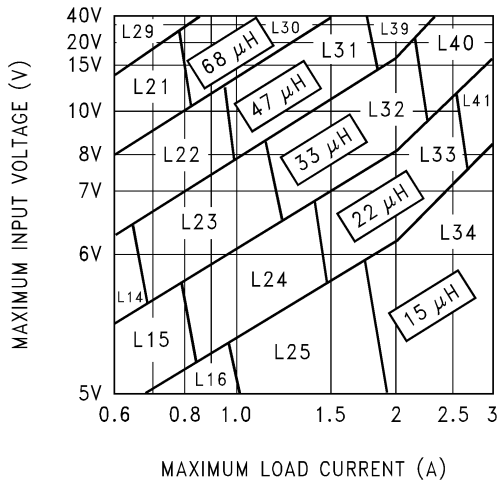
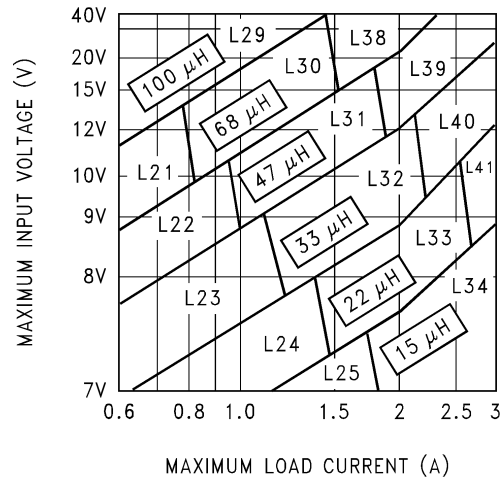
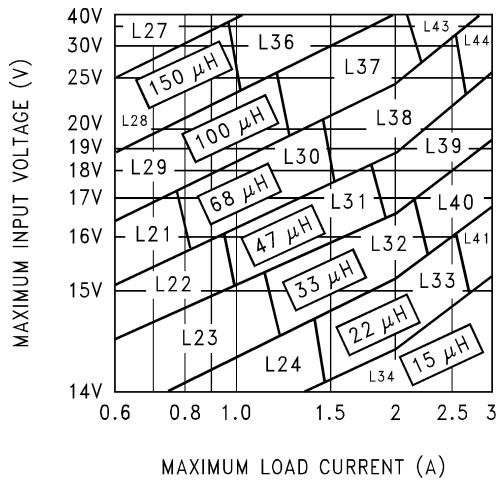
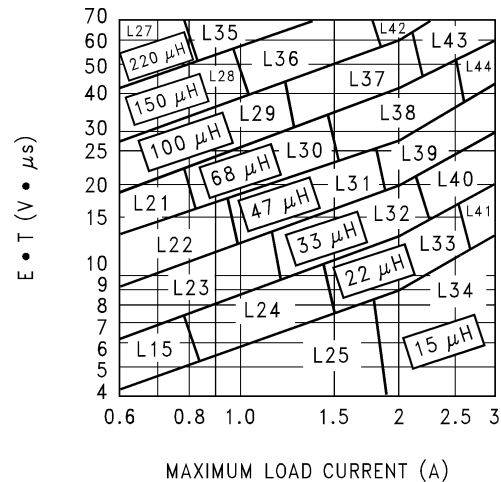

Figure 9-5. LM2596-3.3
Figure 9-6. LM2596-5.0
Figure 9-7. LM2596-12
Figure 9-8. LM2596-ADJ
To simplify the inductor selection process, an inductor selection guide (nomograph) was designed (see Figure 9-5 through Figure 9-8). This guide assumes that the regulator is operating in the continuous mode, and selects an inductor that will allow a peak-to-peak inductor ripple current to be a certain percentage of the maximum design load current. This peak-to-peak inductor ripple current percentage is not fixed, but is allowed to change as different design load currents are selected (see Figure 9-4.)
For continuous mode operation, see the inductor selection graphs in Figure 9-5 through Figure 9-8.
In a switching regulator design, knowing the value of the peak-to-peak inductor ripple current ( $\Delta I_{IND}$ ) can be useful for determining a number of other circuit parameters. Parameters such as peak inductor or peak switch current, minimum load current before the circuit becomes discontinuous, output ripple voltage, and output capacitor ESR can all be calculated from the peak-to-peak  $\Delta I_{IND}$ . When the inductor nomographs in Figure 9-5 through Figure 9-8 are used to select an inductor value, the peak-to-peak inductor ripple current can immediately be determined. Figure 9-9 shows the range of ( $\Delta I_{IND}$ ) that can be expected for different load currents. Figure 9-9 also shows how the peak-to-peak inductor ripple current ( $\Delta I_{IND}$ ) changes as you go from the lower border to the upper border (for a given load current) within an inductance region. The upper border represents a higher input voltage, while the lower border represents a lower input voltage.
The selection guide in Figure 9-6 shows that the vertical line for a 2.5-A load current and the horizontal line for the 12-V input voltage intersect approximately midway between the upper and lower borders of the 33- $\mu\text{H}$  inductance region. A 33- $\mu\text{H}$  inductor allows a peak-to-peak inductor current ( $\Delta I_{IND}$ ), which is a percentage of the maximum load current, to flow. In Figure 9-9, follow the 2.5-A line approximately midway into the inductance region, and read the peak-to-peak inductor ripple current ( $\Delta I_{IND}$ ) on the left hand axis (approximately 620 mA p-p).
1. Select the correct inductor value selection guide from Figure 9-5, Figure 9-6, or Figure 9-7 (output voltages of 3.3 V, 5 V, or 12 V respectively). Use the inductor selection guide for the 5-V version shown in Figure 9-6.
2. From the inductor value selection guide, identify the inductance region intersected by the maximum input voltage line and the maximum load current line. Each region is identified by an inductance value and an inductor code (LXX). From the inductor value selection guide shown in Figure 9-6, the inductance region intersected by the 12-V horizontal line and the 3-A vertical line is 33  $\mu$ H, and the inductor code is L40.